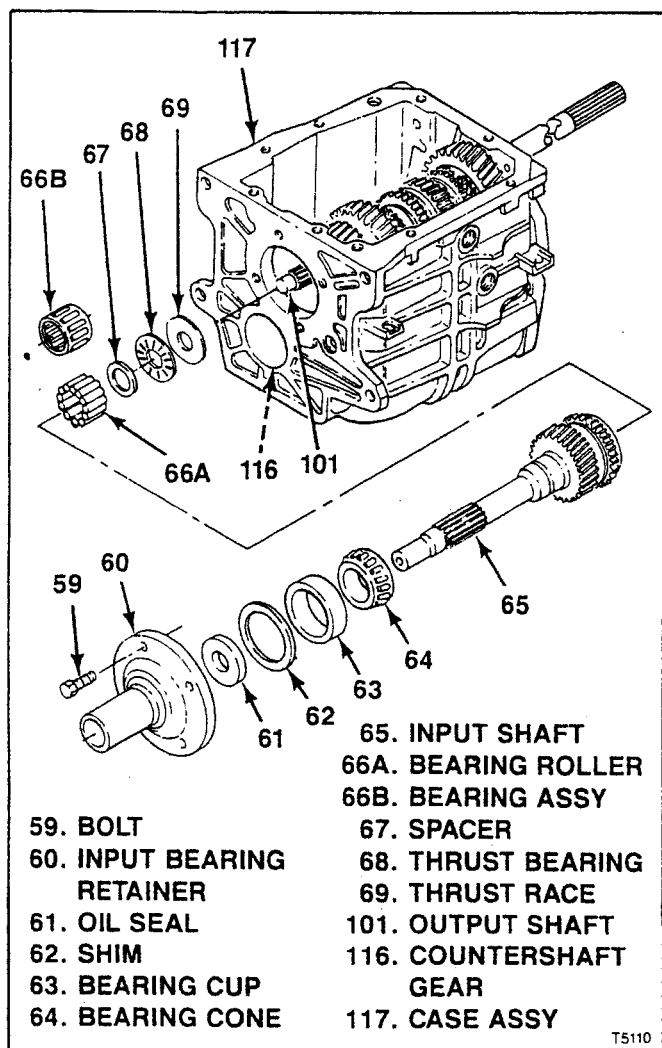

Figure 3-7. T5 WC Input Shaft
3-13. REMOVAL OF T5 WC INPUT SHAFT. Make alignment mark on input bearing retainer (60) and transmission case (117) and proceed as follows (see figure 3-7):
- Remove bolts (59).
- If necessary, use suitable knife to break sealant bond between input bearing retainer (60) and transmission case (117). Pull bearing retainer straight out.
- Use suitable puller to remove oil seal (61) from input bearing retainer (60).
- Remove shim(s) (62) and bearing cup (63).